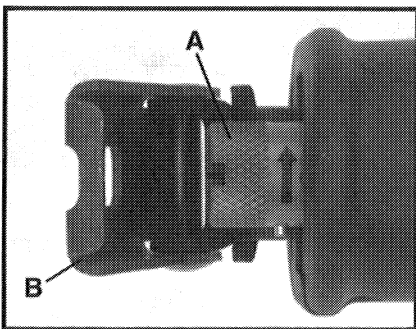

Fig. 3
1. The reciprocating shaft must be fully extended to permit access to the *Quik-Change™* blade release collar (A) Fig. 3. If necessary, gently bump the trigger switch to move the reciprocating shaft to its outermost position (as shown in Fig. 3).
2. Pivot the guide shoe (B) Fig. 3, forward to improve access to the blade clamp.